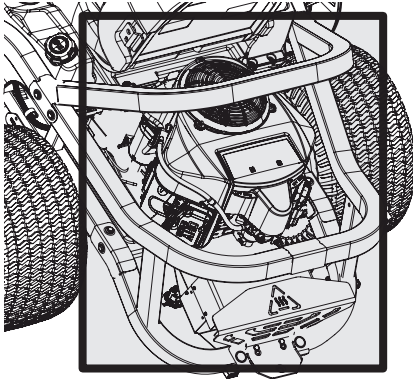

Figure 36
- Keep both sides of transmission cooling slots, exhaust manifold, around fuses, all wiring and harnesses, muffler pipe, muffler shield, engine intake screens and cooling fins, etc. clear of grass clippings and leaves (Figure 36).